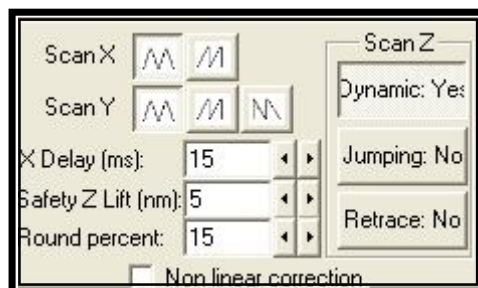

Fig. 4.28
15. In the Scan Options Menu (see Fig. 4.28. This menu is usually already opened, button ). Select *Dynamic* among the possible measurement modes. In case none of them is selected, the system will work in Contact Mode. The final configuration should be: *Dynamic: Yes*, *Jumping: No* and *Retrace: No*.